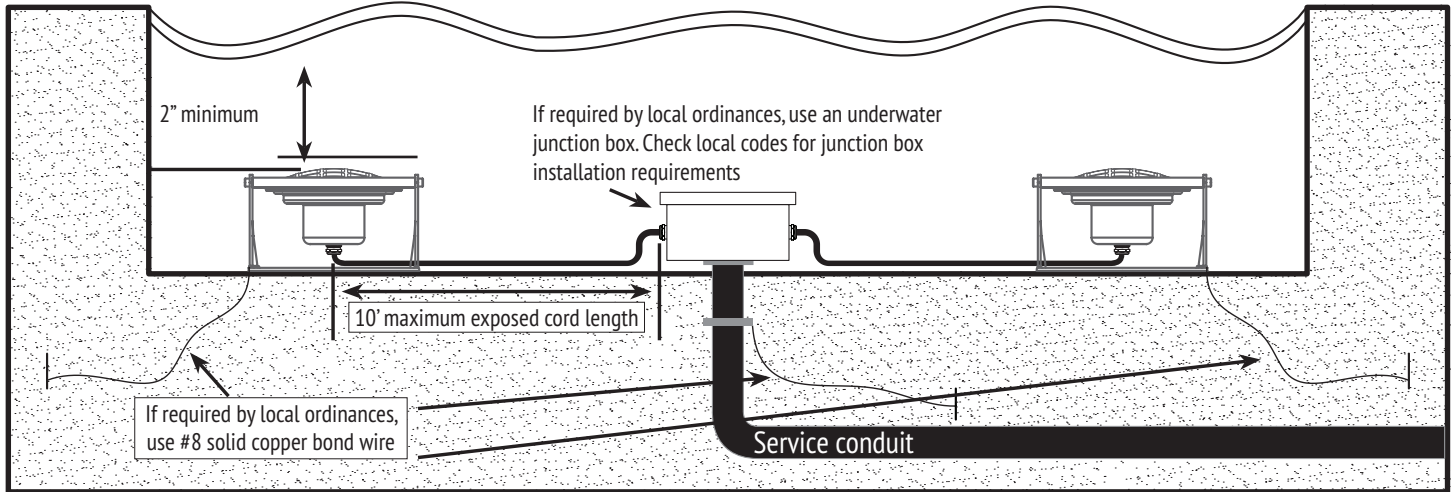

Figure 1
2. Check Local Codes for Junction Box installation requirements. Ensure that the length of exposed cord in the fountain is no more than 10 feet (3 m.), see Figure 1 on page 2.